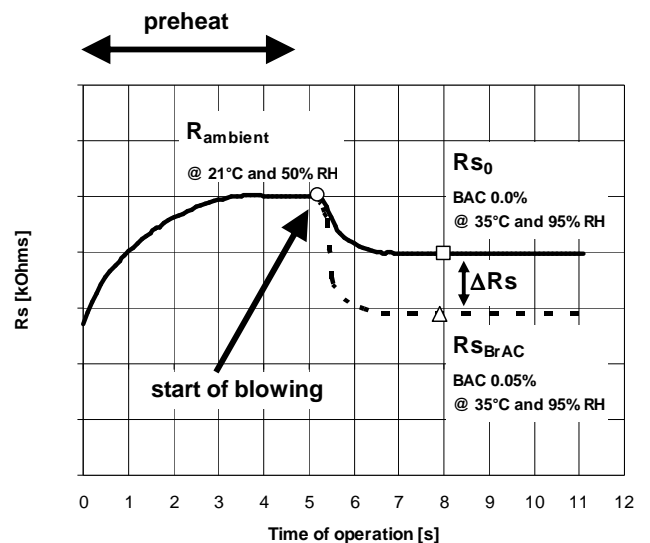

Figure 5: Sensor Output with Breath Exposure
2. Wait for at least 5 seconds to allow the sensor to reach a stable reading R_{ambient}. As shown in figure 5, there should be <10% R_s variation in the last second.
With a simulated breath exhaled at BrAC = 0.0 mg/l, the sensor resistance, R_s , will decrease, i.e. changing from R_{ambient} to R_{S_0} (see Figure 5). This is a result of the sensitivity of the sensor to the exhaled air which is at 35 °C and 95%RH.